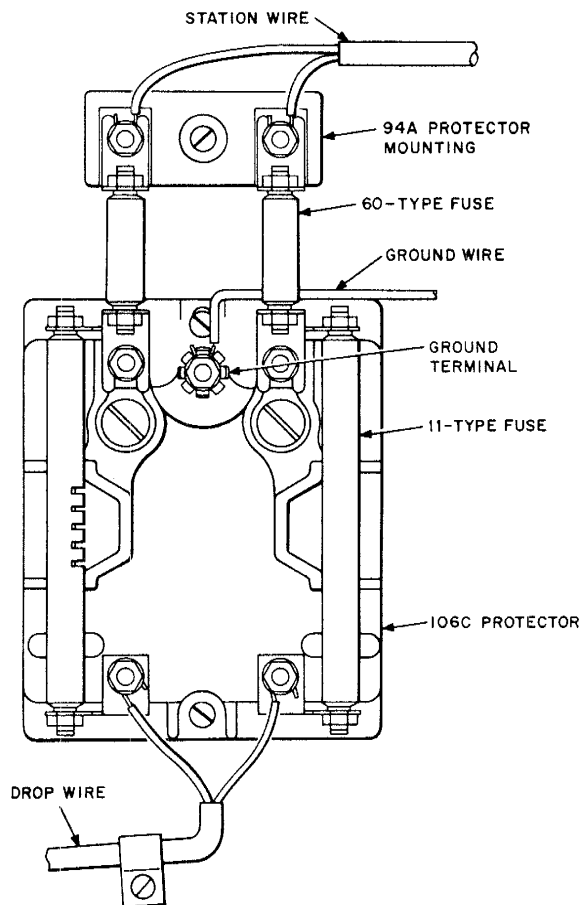

Fig. 25—94A Protector Mounting with Fused Protector
conductors on the line side of the protectors. Use two 11CBB Fuses, one for the tip and one for the ring conductors (Fig. 25 and 26). On disconnects, replace the 2A1D Protector Units with 2A1A Protector Units.
**7.11** Fig. 25 illustrates a typical installation of 60-type fuses with a fused protector.